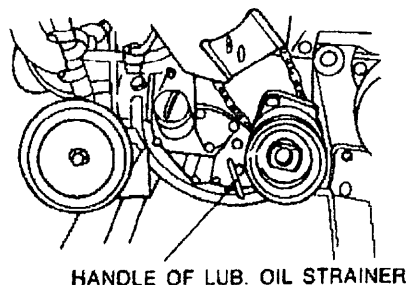

FIG. 24
- (1) Turn the handle which is on the forward lower end of the engine to both left and right several times to remove dirt from the lubricating oil strainer element (see Fig. 24).
- (2) Lubricate: